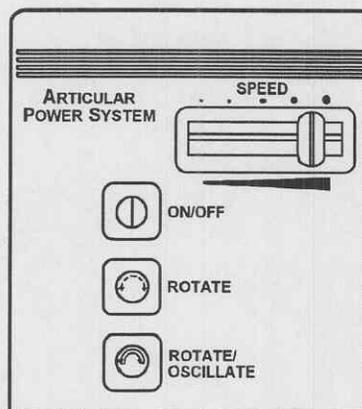

Figure 2-12. Switches.
- c. Select the desired mode by depressing either the **ROTATE** mode selector switch or the **ROTATE/OSCILLATE** mode selector switch (fig 2-12). The switch that is depressed will be illuminated.